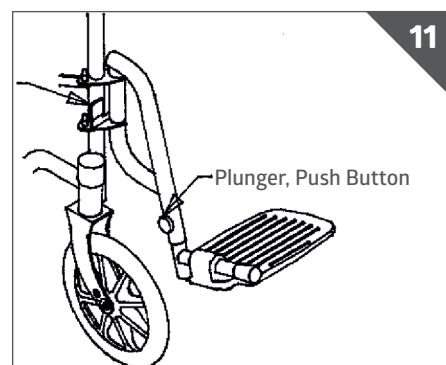

Figure 11
1. Loosen the plunger by pulling out (Figure 11).